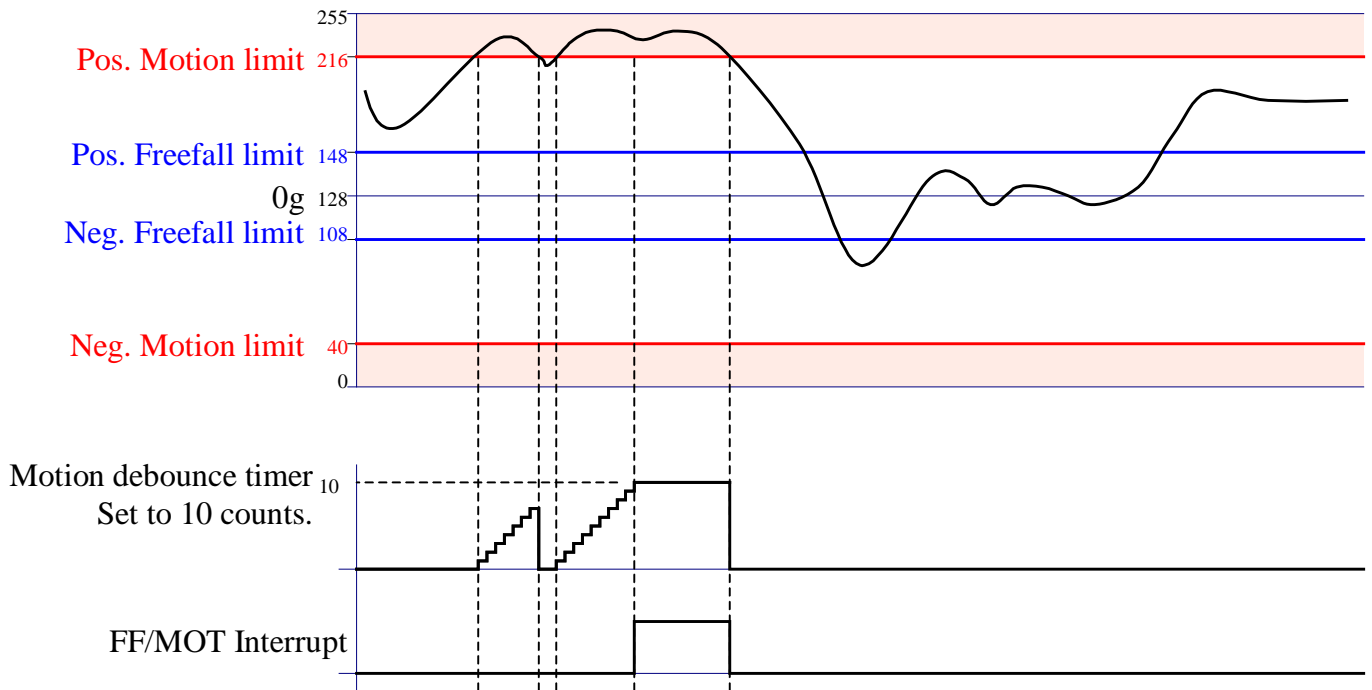

Figure 7. Typical Motion Interrupt Example (MOTLat = 0, MOTen = 1)
**MOTLat** switches the motion interrupt function between latching and non-latching as shown in Figures 7 and 8.
*MOTLat = 1 - The motion interrupt output will go high whenever the criterion for motion detection is met. The interrupt output will remain high until the user toggles the MOT Enable pin (12) low.*